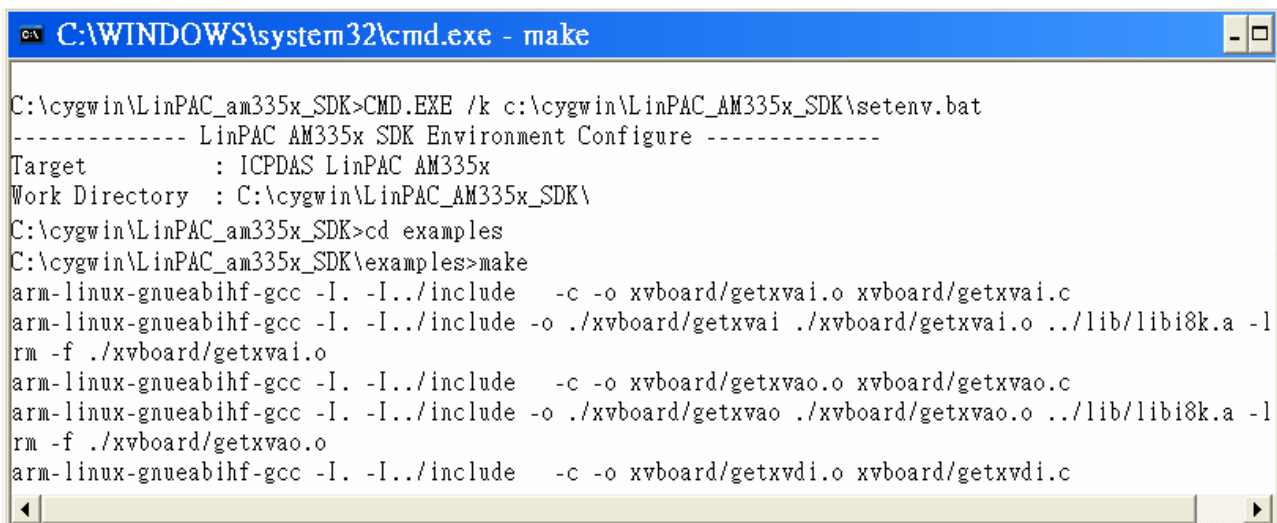

Fig. 2-17
9. Type “**make**”. A Command Prompt window will then be displayed that allows applications for the LP-9x21 to be compiled. Refer to Fig. 2-17.